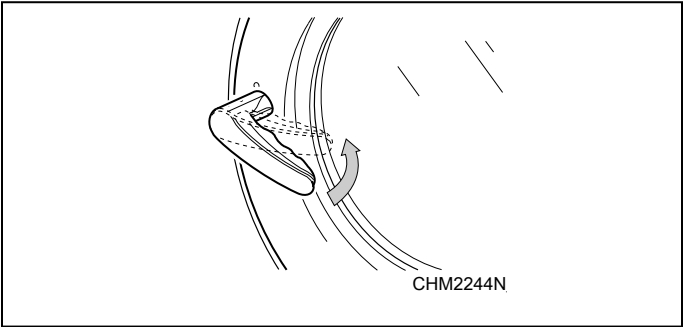

Figure 54
- 4. Close the door and turn handle counter clockwise. Refer to *Figure 54*.